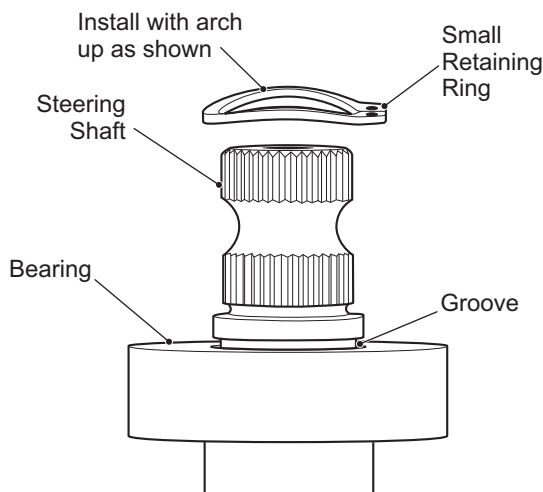

Figure 22 Small Retaining Ring Orientation
5. Remove the four bolts (5) and washers (6) that secure the steering column (7) to the chassis and remove the column.
6. Remove the large retaining ring (8) on the bottom end of the column.
7. Pull the shaft and bearing (9) out as an assembly. Slide the wave washer (10) out of the bottom end of the steering column. Retain for reuse.
8. Remove the small retaining ring (11) and press the bearing from the steering shaft.
10. With the small retaining ring oriented with the arch facing up, slide the ring onto the shaft as far as possible using snap ring pliers (Ref. Figure 22).
13. To install the steering shaft and bearing assembly, apply wheel bearing grease to the lip of the seal in the bushing (12) at the top of the column.